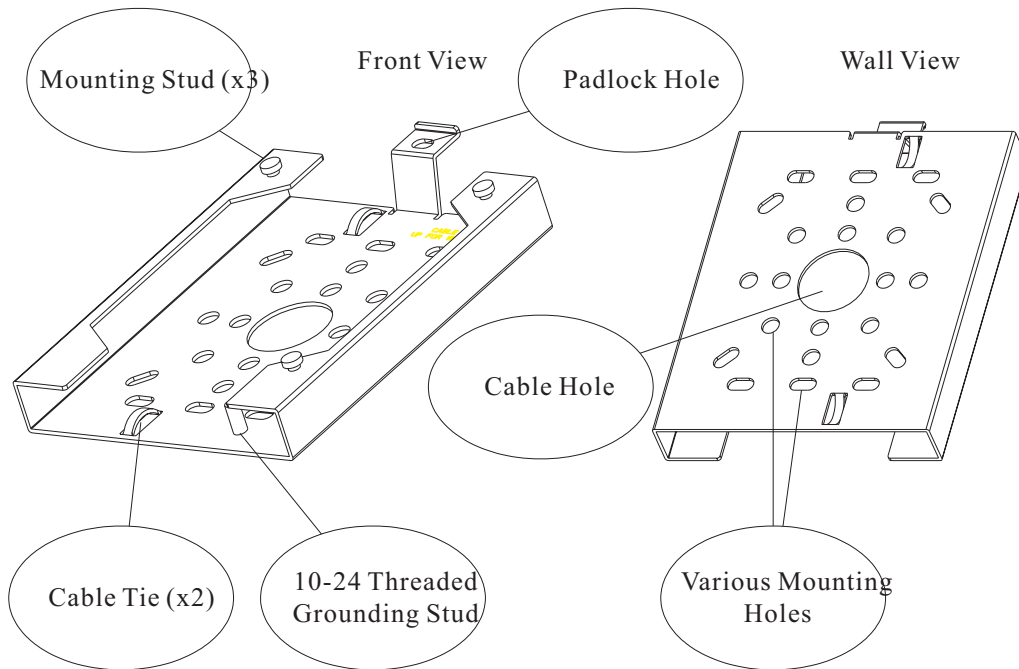
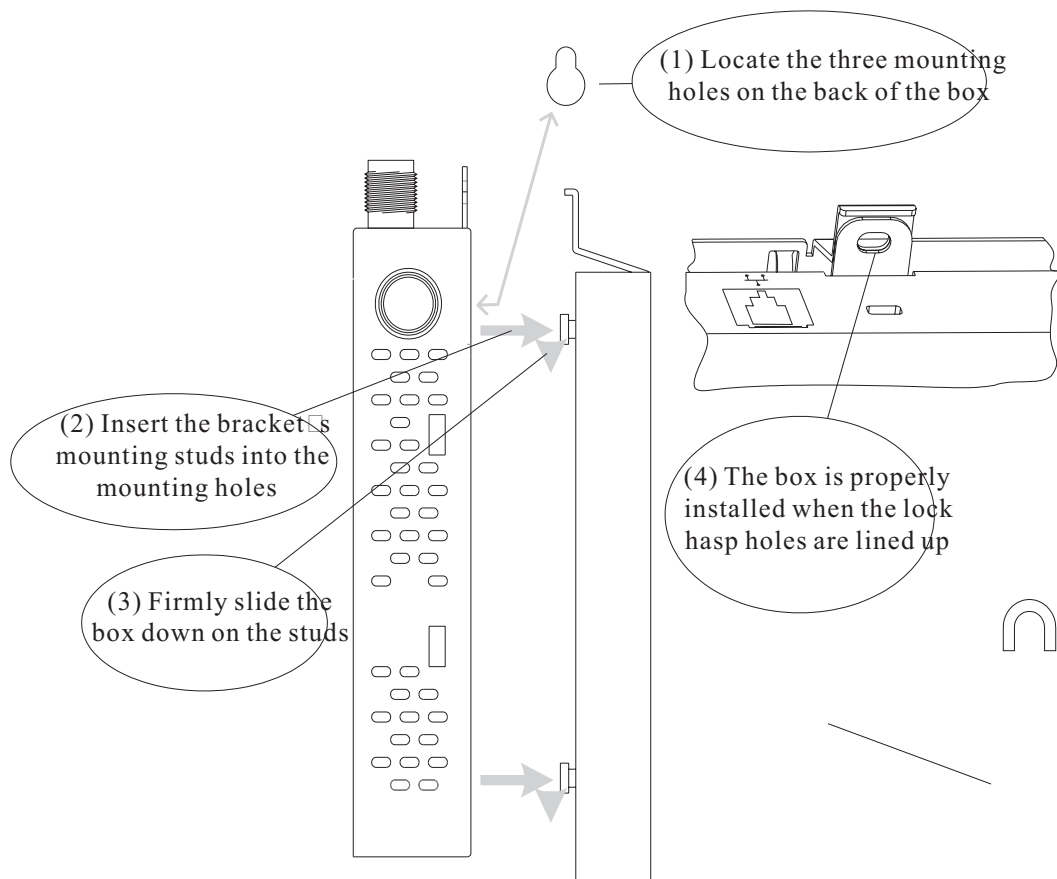
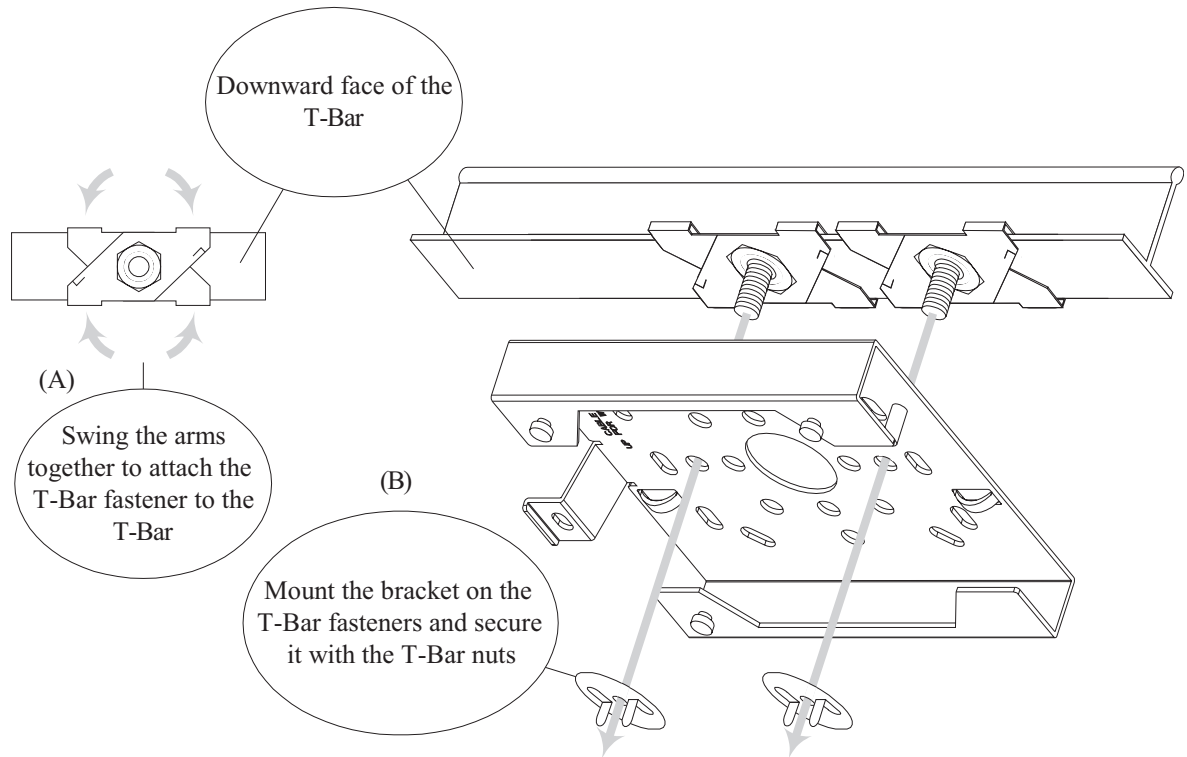

Figure 5: Universal Mounting Bracket
Figure 6: Mounting The Wireless Port On The Universal Mounting Bracket
Figure 7: Installation On A Hanging Ceiling
- 2 Mount the Altitude 300-2™ on the universal mounting bracket. The Altitude 300-2™ has three slotted mounting holes on the back of the unit. The mounting studs on the universal mounting bracket fit into the slotted mounting holes. The unit slides all the way forward into these holes. The lock hasp hole on the Altitude 300-2™ should line up with the lock hasp hole on the universal mounting bracket when the unit is slid all the way forward, see Figure 5: Mounting The Wireless Port On The Universal Mounting Bracket on page 14.
- 3 Lock and secure the Altitude 300-2™. The Altitude 300-2™ and the universal mounting bracket are designed to use a Master Lock 120T or similarly sized padlock to secure the wireless port from theft of from coming off the bracket, see Figure 5: Mounting The Wireless Port On The Universal Mounting Bracket on page 14. Wall and ceiling installations skip step 4.
The T-Bar fasteners included with the wireless port are designed to connect to a range of hanging ceiling T-Bar sizes. Following the steps in Figure 6, spread the T-Bar fastener apart, place it on the T-Bar and squeeze it together until it is firmly seated on the T-Bar. With the two T-Bar fasteners in place and properly spaced to match the brackets T-Bar fastener holes, determine if spacers are needed. The T-Bar fastener spacers are designed for hanging ceilings where the ceiling tiles' bottom surface is below the T-Bar. If this is the case, install the spacer as show in the diagram. The spacer allows the universal mounting bracket to sit below the bottom surface of the ceiling tile.
The universal mounting bracket has mounting holes that allow it to be installed inline with the T-Bar as shown in Figure 6 or at right angles to the T-Bar.
Some hanging ceilings have tiles with bottom surfaces that hang below the bottom of the T-Bar. For these ceilings spacers are provided. The spacers go between the T-Bar fasteners and the universal mounting bracket as shown in Figure 7.
The Altitude 300-2™ may be installed underneath a hard ceiling where wall anchors are used to mount the bracket. Select the orientation for the bracket remembering that that integrated antennas are on the side and to the back of the Altitude 300-2i™. Use the bracket as a template to mark the holes on the ceiling. For each of the four plastic anchors supplied with the unit, drill 4.8 mm (3/16") pilot holes, 24.5 mm (1") deep. If wall anchors are not being used drill 3.2 mm (1/8") holes, 1 inch (25.4 mm) deep. Install the bracket using the screws from the kit. The Altitude 300-2™ is designed to slip into the mounting slots on the bracket and slide all the way to the front, see Figure 5: Mounting The Wireless Port On The Universal Mounting Bracket on page 14. The unit should then be secured with either a padlock (not supplied) or a cable tie (supplied). The installer may now follow the standard instructions for connecting the Ethernet cable, antenna shrouds for integrated antennas, and the plastic cover.
The Altitude 300-2™ may be suspended from the T-Bars of a hanging ceiling. The mounting kit contains two T-Bar fasteners that can be adjusted for a variety of T-Bar widths. There are a number of round holes on the bracket that can be used for the T-Bar fasteners; use two that are convenient for the required orientation on the ceiling. The bracket is oriented on the T-Bar with so that the antennas face the desired direction. Use the bracket to lightly mark where the T-Bar fasteners should be placed. Install the two T-Bar fasteners on the T-Bar, see Figure 6: Installation On A Hanging Ceiling on page 15. Some ceilings have ceiling tiles that hang down below the bottom of the T-Bar. Spacers are provided with the kit for these types of tiles. The spacers go between the T-Bar fasteners and the bracket with the spacer's face against the bracket, see Figure 7: Installation Of Optional Spacer on page 15. Mount the bracket and make sure fasteners are tight and the bracket is secure. The Altitude 300-2™ is now slipped into the bracket's mounting slots and slid all the way to the back, see Figure 5: Mounting The Wireless Port On The Universal Mounting Bracket on page 14. The unit should then be secured with either a padlock (not supplied) or a cable tie (supplied). The installer may now follow the standard instructions for connecting the Ethernet cable, antenna shrouds for integrated antennas, and the plastic cover.
The Altitude 300-2™ can be mounted on a vertical surface using the universal mounting bracket supplied. The vertical position should be with the Ethernet cable and lock hasp pointing up. Select the location for the unit and use the bracket as a template to mark the holes in the ceiling. For each of the four plastic anchors supplied with the unit, drill 4.8 mm (3/16") pilot holes, 24.5 mm (1") deep. If wall anchors are not being used drill 3.2 mm (1/8") holes, 1 inch (25.4 mm) deep. Install the bracket using the screws from the kit. The Altitude 300-2™ is designed to slip into the mounting slots on the bracket and slide all the way down, see Figure 5: Mounting The Wireless Port On The Universal Mounting Bracket on page 14. The unit should then be secured with either a padlock or a cable tie. The installer may now follow the standard instructions for connecting the Ethernet cable, antenna shrouds for integrated antennas, and the plastic cover.